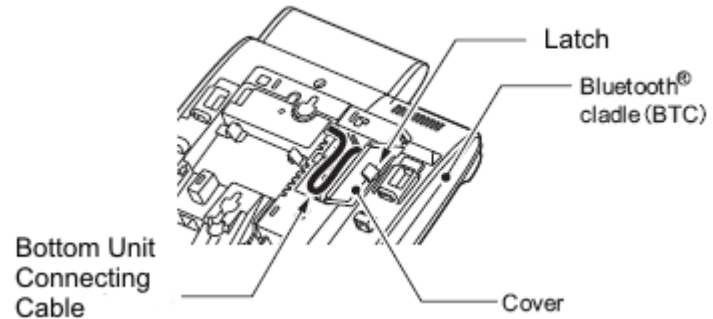

Figure 5-140 Stowing the Bottom Unit Cable
17. Push the latch to release the cover (see Figure 5-140 Stowing the Bottom Unit Cable). Stow the extra bottom unit connecting cable and close the cover.